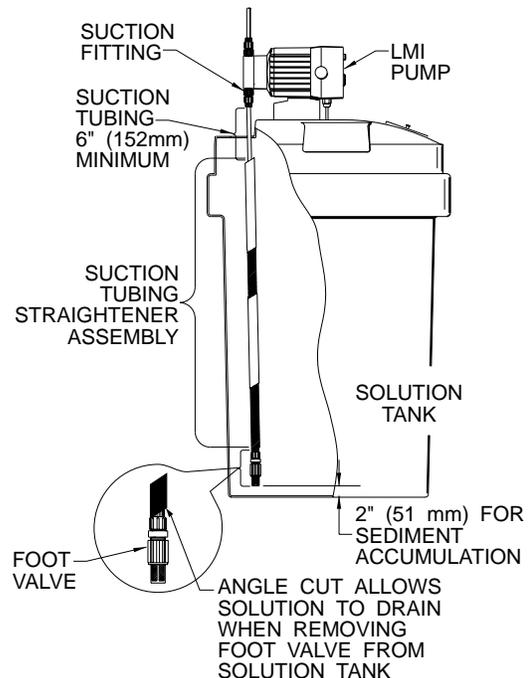

Figure 2
4. Slide the tubing straightener over the suction tubing (black tube first) so the black inner tube contacts the top of the foot valve coupling nut (Figure 2).
5. A minimum of 6" (152 mm) of suction tubing should exit the tubing straightener at the top so the connection can be made at the suction fitting on the pump head (Figure 2) according to the instructions on the Liquid Handling Assembly sheet.
6. Install foot valve, tubing and tubing straightener assembly into solution tank and attach tubing to suction fitting on pump head (Figure 2).